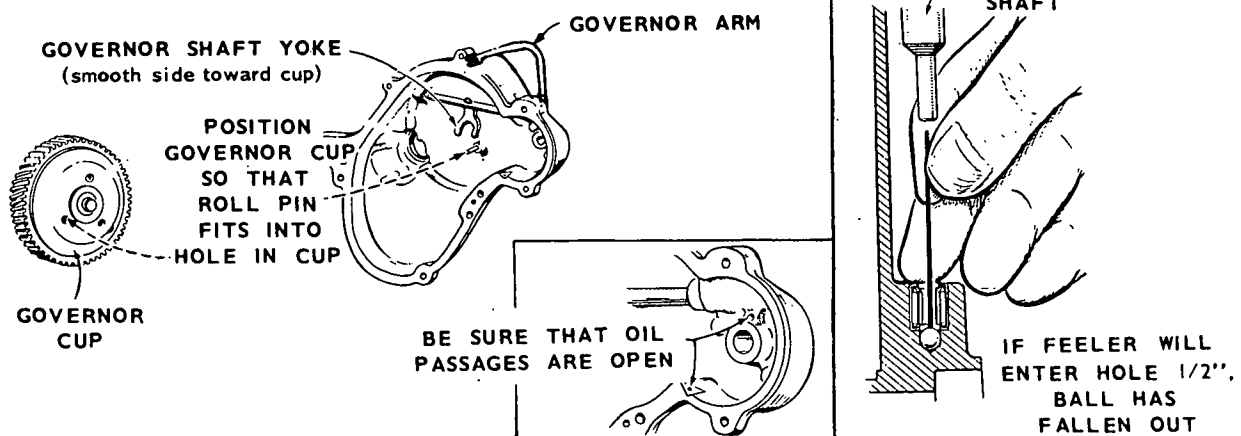

FIGURE 43. GEAR COVER
To remove the gear cover (Figure 43), detach the upper governor ball joint. Remove the governor speed adjustment nut and governor spring bracket.
1. Work the governor shaft to check for binding and see that the governor-shaft-end-thrust ball is in place (Figure 43). Later models have a larger ball which will not fall out.